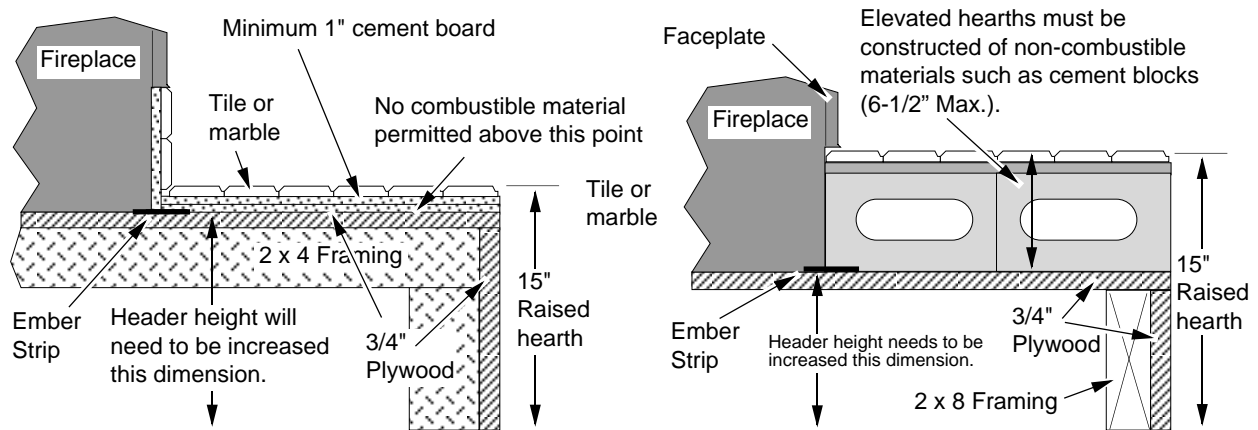

Figure 12
- The fireplace (and hearth, if desired) may be placed on a platform designed to support the fireplace and vent (approximately 600 lbs.). See Figure 12.